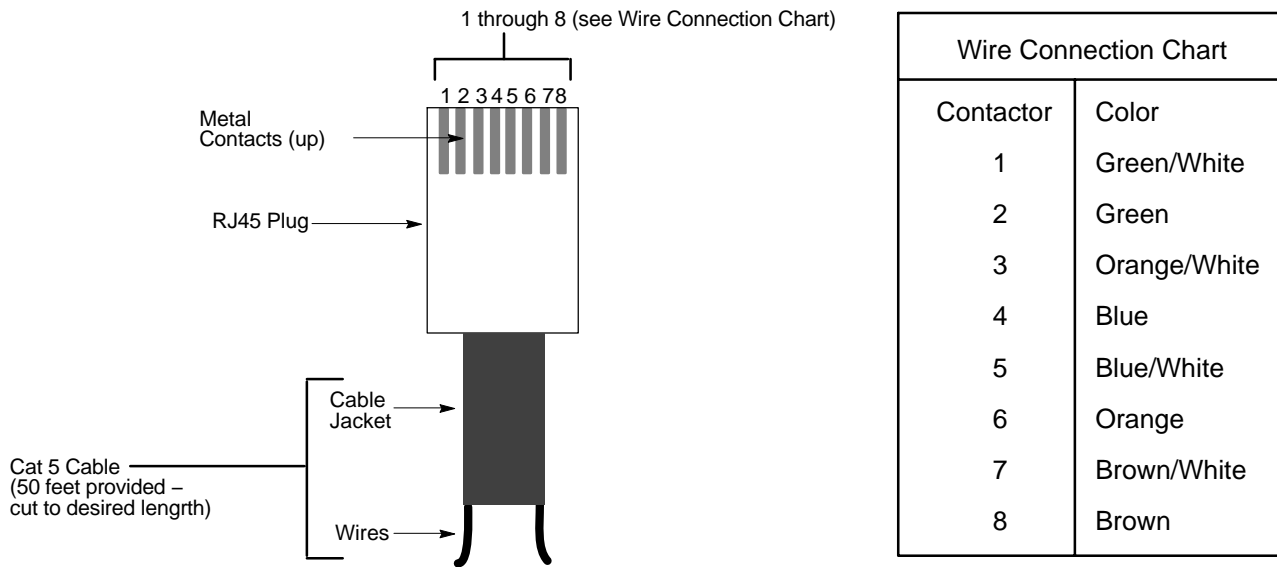

Figure 6. Remote Panel RJ45 Plug (Front View) with Wire Connection Chart
5.	Insert the insulated conductors into the provided RJ45 plug assembly (see Figure 6) and crimp using the proper tool for CAT5 connectors.